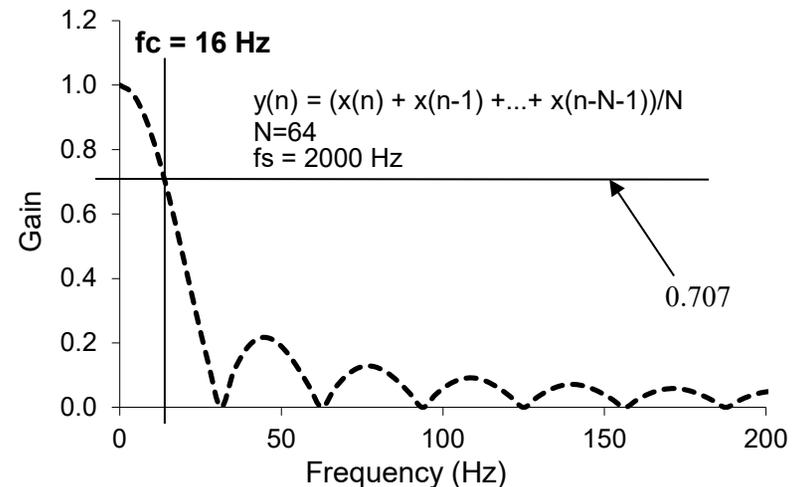

Figure 7. Frequency response of averaging filter with N=64.
If you wish to learn more about the simple averaging filter, open the spreadsheet **FIR_Digital_LowPassFilter.xls** located in the **inc** folder. You can change the sampling rate (fs) and filter size (N) and visualize the frequency and step responses. The two parameters you can adjust are highlighted in yellow. If the sampling rate is 2000 Hz, and the size N is 64, then the filter has a cutoff frequency (fc) of 16 Hz, see Figure 7.